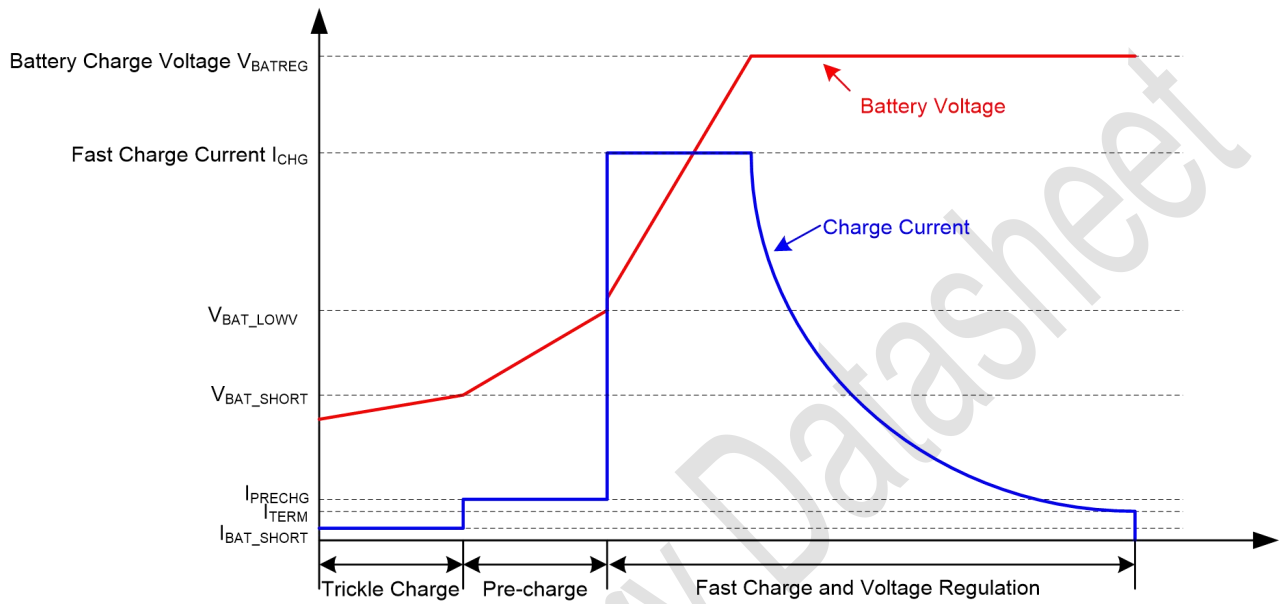

Figure 7. Battery Charge Profile
In Charge Mode as shown in the table 1, the device charges the battery in four sub-charge-modes: trickle charge, pre-charge, Constant Current (CC) charge and Constant Voltage (CV) charge as shown in Figure 7. If the battery voltage falls below  $V_{BAT\_SHORT\_FALL}$ , the battery charge battery with trickle charge current  $I_{BAT\_SHORT}$ , when the battery voltage rises above  $V_{BAT\_SHORT\_RISE}$  and below  $V_{BAT\_LOWV\_RISE}$ , the charger charges battery in precharge mode with charge current at  $I_{PRECHG}$ . Fast charge starts once battery voltage rises above  $V_{BAT\_LOWV\_RISE}$ . When battery voltage is close to battery charge voltage  $V_{BATREG}$ , the charger goes into CV mode and charge current starts to decrease. When charge current decreases below termination current  $I_{TERM}$ , charge is terminated and charge cycle comes to the end. Following charge termination, if the battery voltage follows below  $(V_{BATREG} - V_{RECHG\_HYS})$ , a new charge cycle restarts.